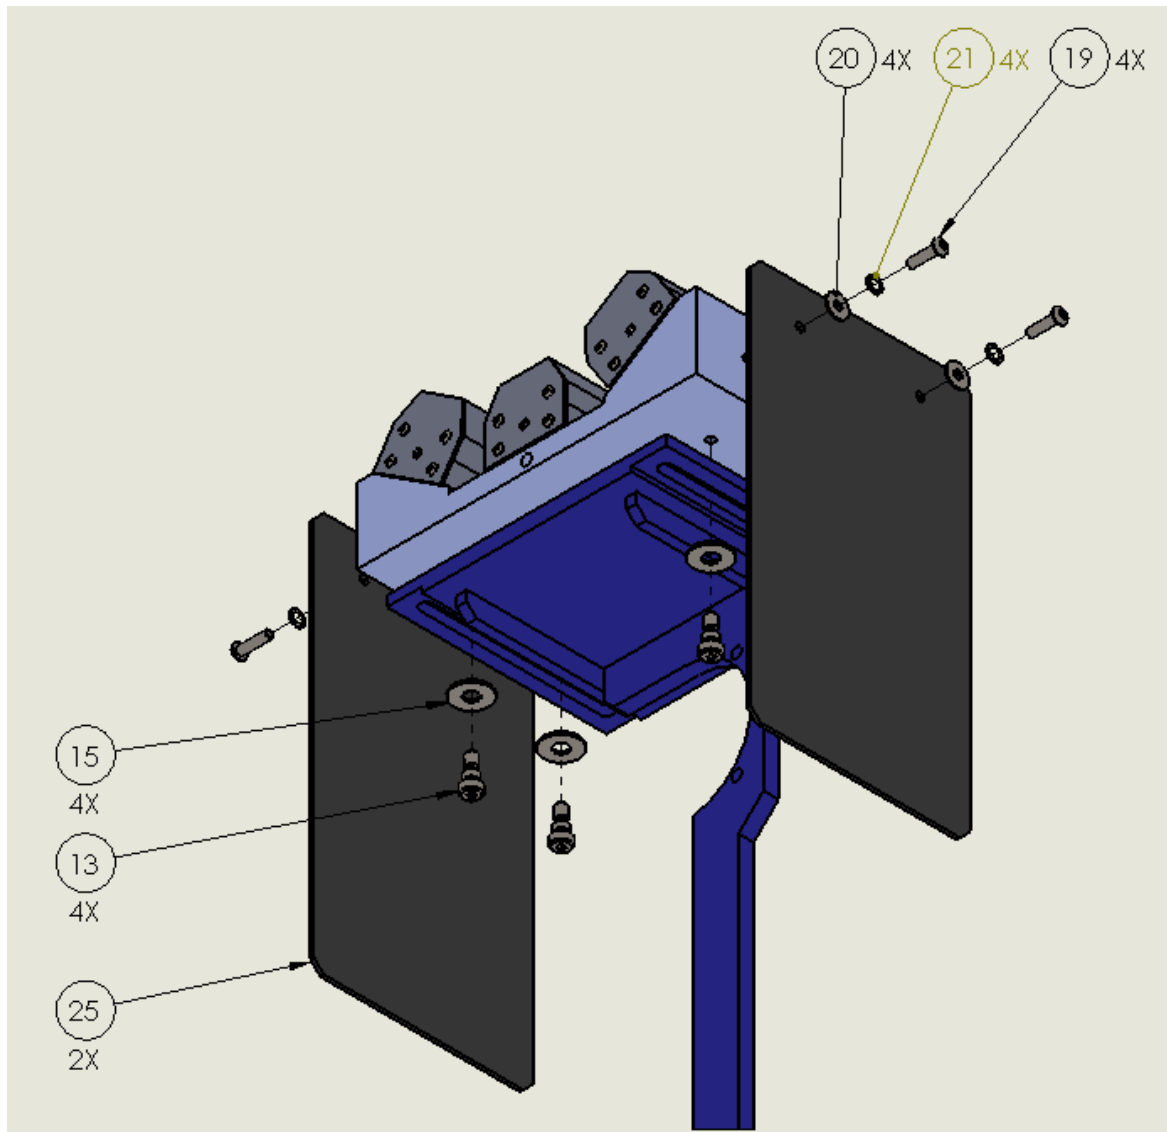

Figure 6 – Assembly of 202007 block onto lower bracket with heat sinks
7. Install lower light block as shown in figure 6.